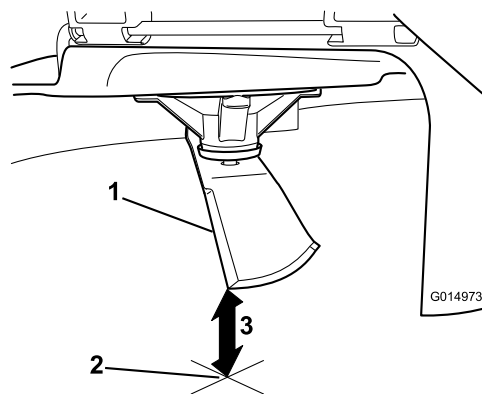

**Figure 54**
3. Measured distance between blade and the surface (A)
4. Rotate the same blade 180 degrees so that the opposing cutting edge is now in the same position (Figure 54).